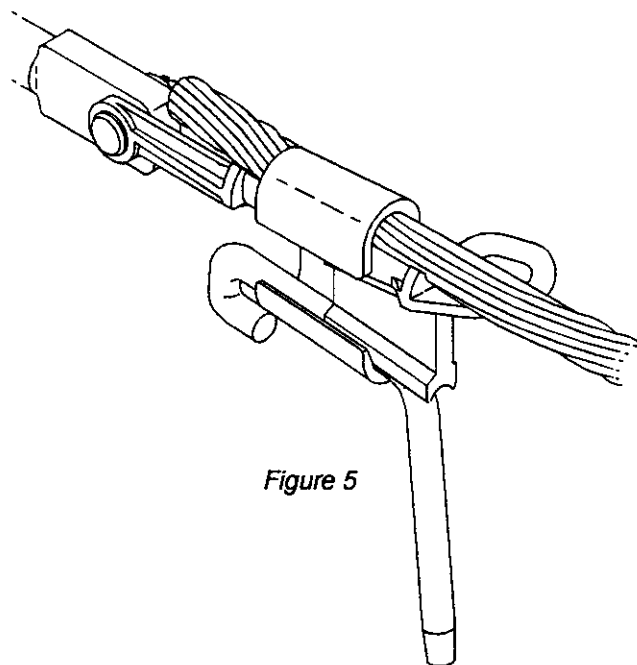

Figure 5
6. If the deadend assembly with jumper stud is being applied, the jumper stud must be positioned in the opposite groove before inserting the wedge. See Figure 5.